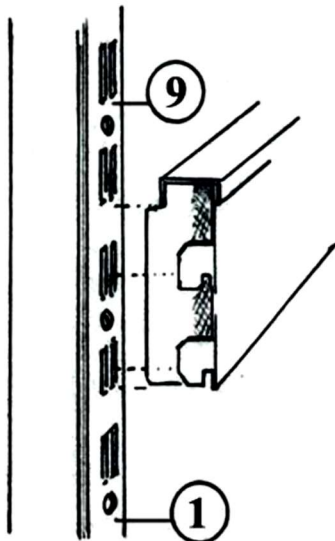

FIG. 3
- C) Insert Rear Beam (8) into corresponding slots of Uprights. (See FIG. 3 on Page 2)
- D) Insert Front Beam (9) into corresponding slots of Front Posts. (1) Make sure Front Beam (9) is same height as Rear Beam. (8) (See FIG. 3 on Page 2)